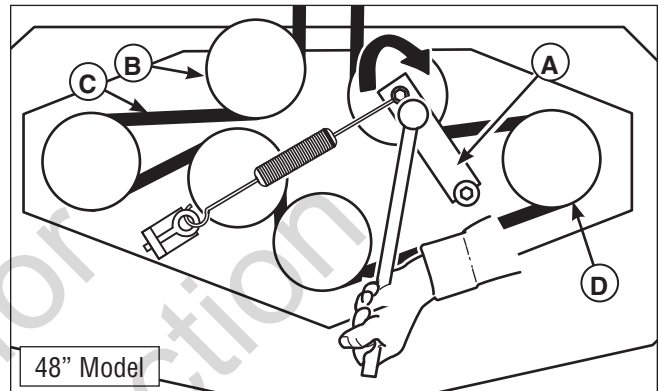

Figure 41. Mower PTO Belt
3. Using a 1/2" breaker bar, place the square end in the square hole located in the end of the idler arm (A, Figures 41). Carefully rotate the breaker bar CLOCKWISE, which will relieve the tension on the belt exerted from the idler arm.
4. Slide the drive belt over the edge of the stationary idler pulley (B). Carefully release the tension on the breaker bar.
6. Install the drive belt on the PTO pulley, the spindle pulleys and all idler pulleys except the stationary pulley (B, Figure 41). Carefully rotate the breaker bar CLOCKWISE and install the belt on the stationary idler pulley (B). Carefully release the tension on the breaker bar.